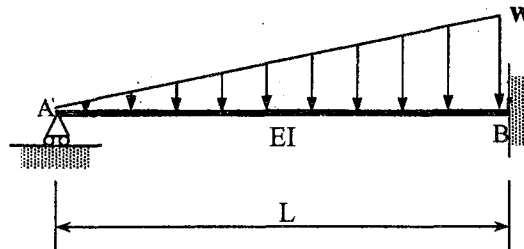

Figure 2
2. [a] Derive the expression for reaction force at A for the propped cantilever beam subjected to a linearly distributed load as shown in Figure 2. Use method of least work.